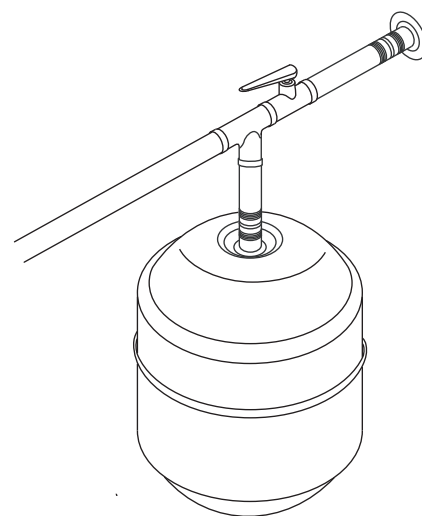

Figure 5 - A Thermal Expansion Tank helps protect the home's plumbing system from pressure spikes.
- Thermal Expansion Tank (Figure 5 on page 7)
Verify that you have a properly sized Thermal Expansion Tank (Figure 5). We recommend installing an expansion tank if your home does not have one. Codes require a properly pressurized, properly sized Thermal Expansion Tank in almost all homes. (See photo on inside front cover.)